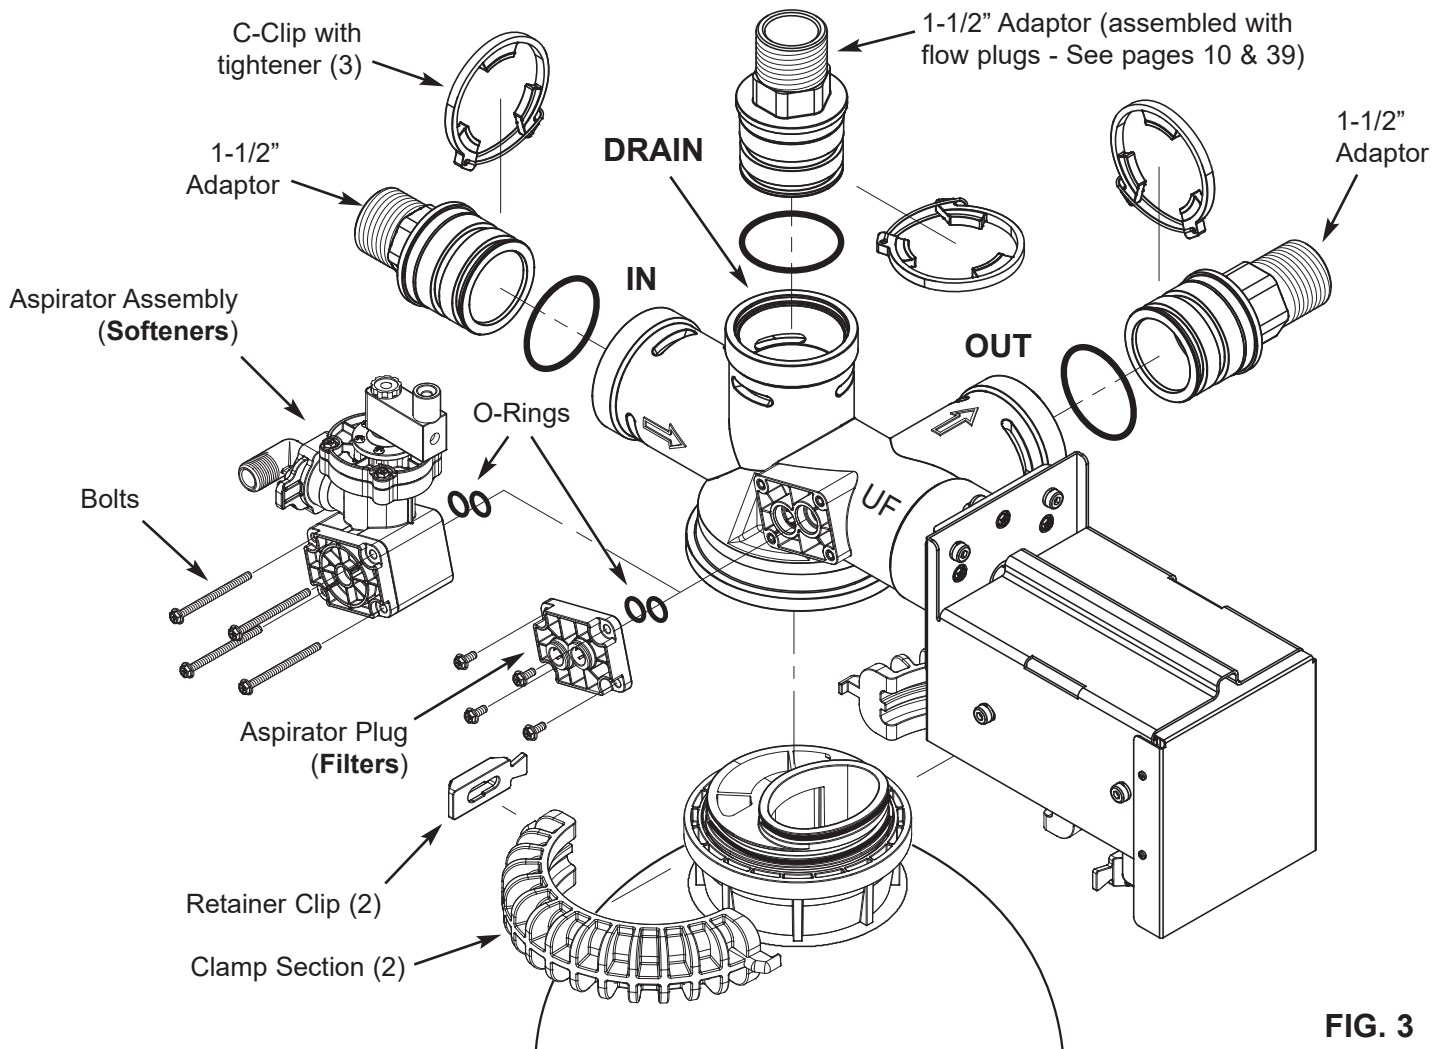

FIG. 3
14. Using 56.52 mm O.D. o-rings, c-clips and tighteners from the valve parts kit, install 1-1/2" threaded adaptors in the inlet and outlet valve ports (Figure 3). **Be sure the c-clips and tighteners are secured in place.**
15. Softeners only: Locate the 1-1/2" threaded adaptor in the **aspirator kit**. It is factory assembled with drain flow controls. Using 56.52 mm O.D. o-ring, c-clip and tightener, install it in the valve outlet port (Figure 3). **Be sure the clamps and retainers are secured in place.**
16. Filters only: Locate the 1-1/2" threaded adaptor in the **filter kit**. Assemble, as shown in the included instruction sheet (also on page 10), using the flow control components appropriate for the filter size and media. Using 56.52 mm O.D. o-ring, c-clip and tightener, install it in the valve outlet port (Figure 3). **Be sure the clamps and retainers are secured in place.**
17. Softeners only: The aspirator assembly contains the required components to control brine and rinse rates for **upflow** regeneration applications at medium water pressures (shaded rows in chart on page 10). If these conditions apply to this installation, do step a below. Refer to Figures 3 and 4, page 9.